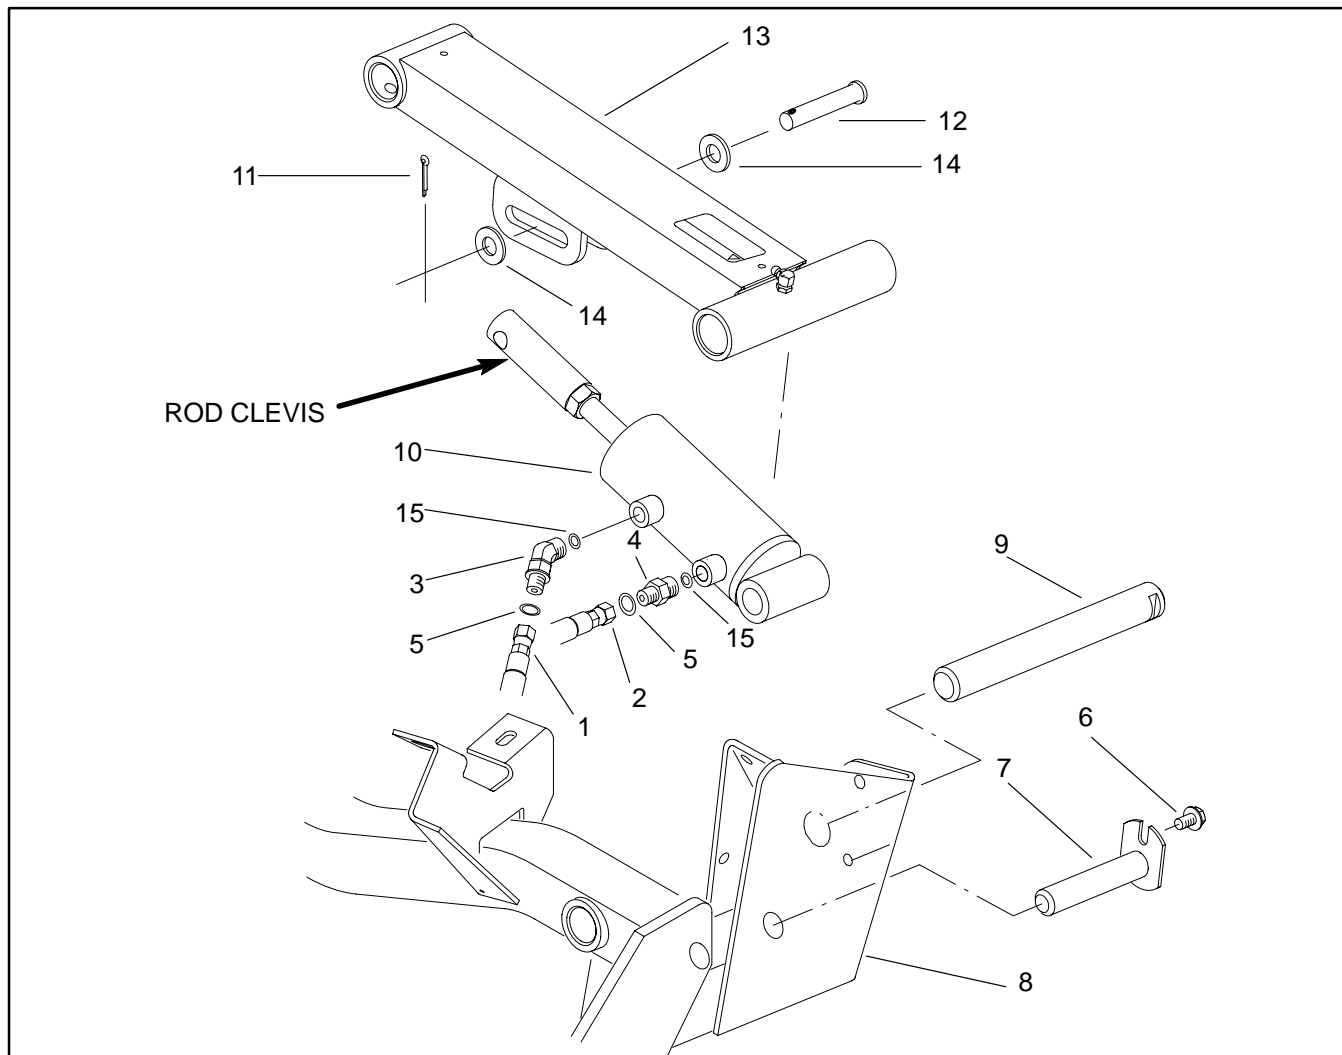

Figure 63
Removal (Fig. 63)
Installation (Fig. 63)
5. If rod clevis (14) has been removed, verify that the distance between the carrier frame rollers (bumpers on later models) and the foot step is about 1/4-inch (6 mm) with the cutting units fully raised. Adjust rod clevis as necessary. (Fig. 63)
C. Separate rod clevis from lift arm (13) (Fig. 63).
E. Position rod clevis into lift arm (13) (Fig. 63).
F. Install clevis pin (12) and flat washers (14) into the lift arm (13) and rod clevis. Secure clevis pin with cotter pin (11) (Fig. 63).